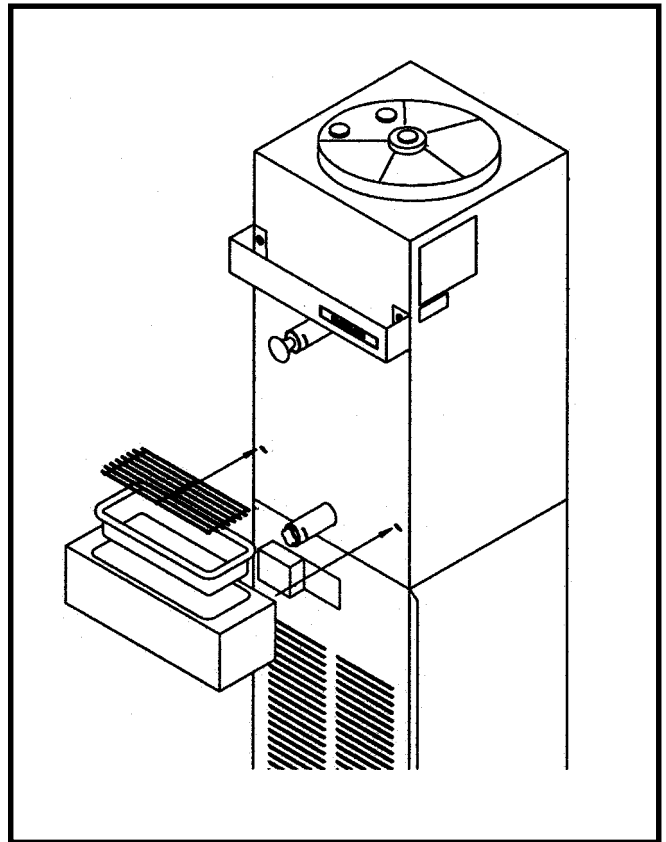

Figure 10
G. Install the drip tray support, drip tray, drip tray grid, cover and miscellaneous parts on the freezer. (Fig. 10)